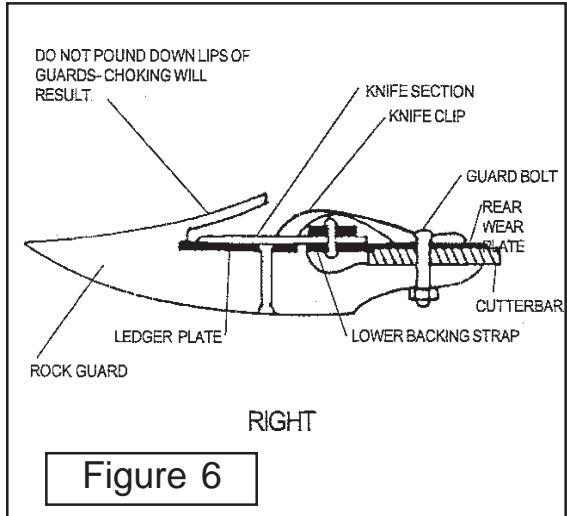

Figure 6
4. Bolt the guards tight and strike them in the thick part, just in front of the ledger plates (see Figure 6). Do not pound down the guard lips as the knife might bind. Retighten the bolts as each guard is aligned. Disregard the position of the guard points. It is the ledger plate which must be kept in line. Blunt points should be filed sharp.